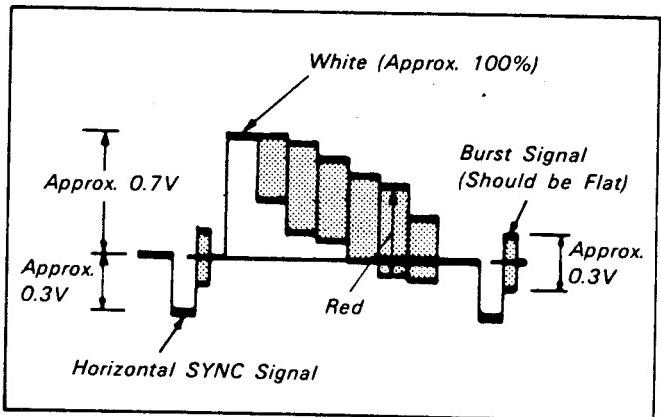

Fig. 5-2. Pattern Generator Colour Bar Signals
Video signals output by a pattern generator are used as adjustment signals when making the electrical adjustments, and these video output signals should be within the required standard. Connect an oscilloscope to Pin ⑩ of CN006 (VIDEO IN) on the VI-9A Board. Check that the amplitudes of video signal SYNC signals, picture portions, and burst signals are flat at approximately 0.3, 0.7, and 0.3V, respectively, and that the level ratio of the burst signal and "red" signal is 0.30:0.66. Fig. 5-2. shows video signals (colour bars) used in making the electrical adjustment.